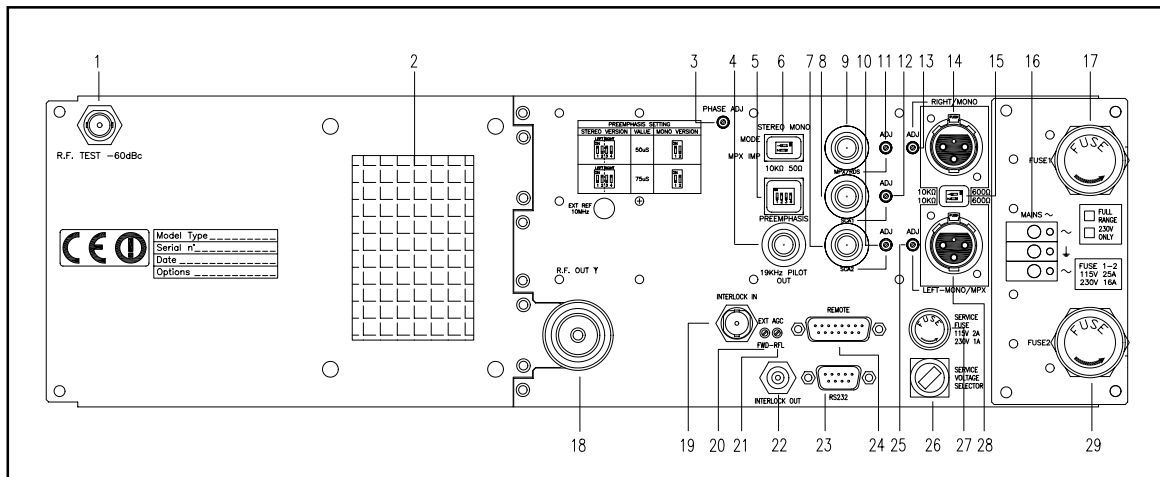

Figure 6.2
- Preemphasis (switch [5] Figure 6.2):
- L and R input impedance (type XLR) (switch [15] Figure 6.2):
- Operation mode/input impedance MPX ([6] Figure 6.2)
(switch [6] Figure 6.2):
The Power Good function is a distributed power check and alarm function. When output power is under Power Good threshold value, machine changes DB15 "Remote" connector's pin state on rear panel (see figure 6.2 note [24]).